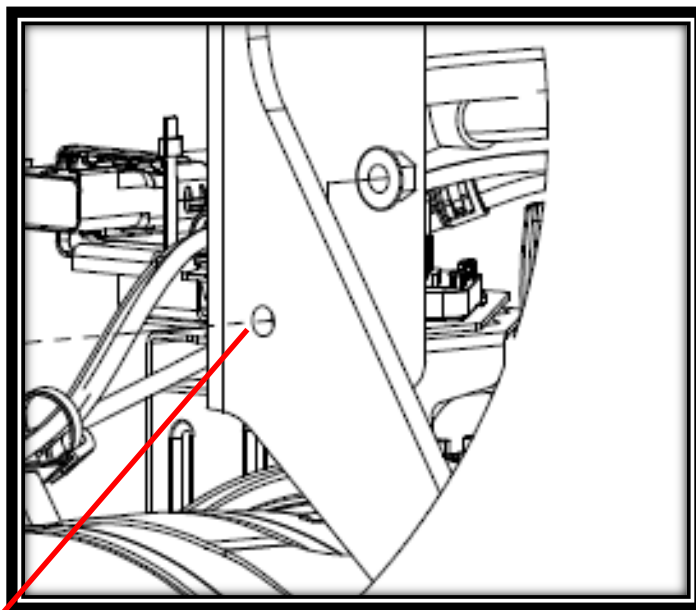
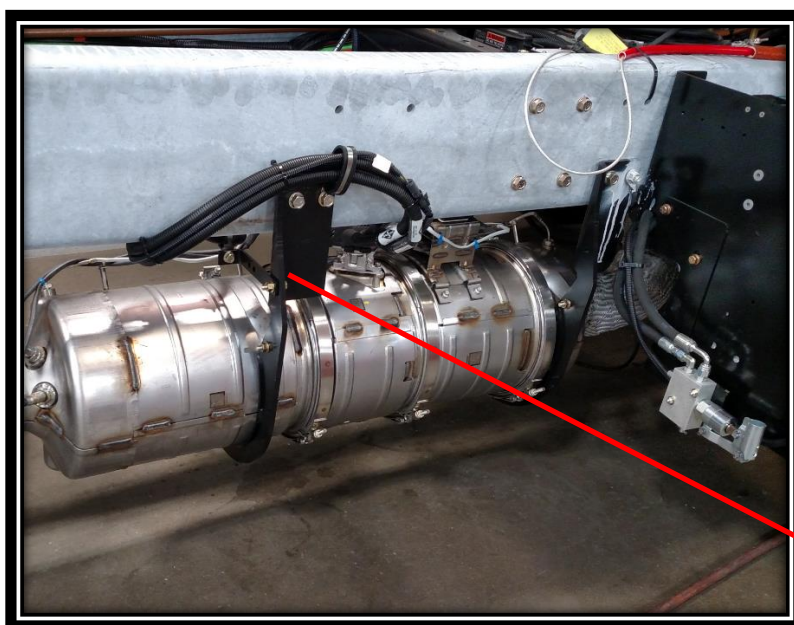

FIG 2.1
FIG 2.2
1. Locate hole in rear exhaust support bracket. Refer to FIG. 2.1 and FIG. 2.2.